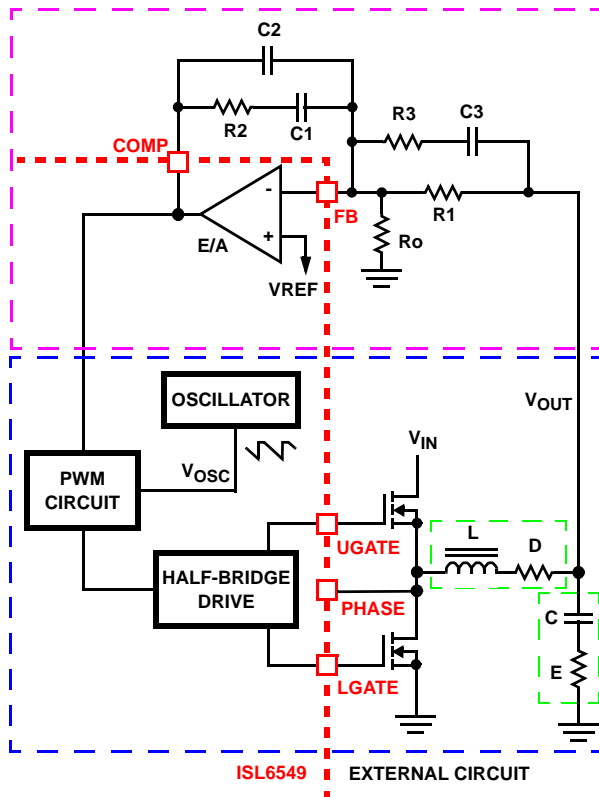

FIGURE 10. VOLTAGE-MODE BUCK CONVERTER COMPENSATION DESIGN
Figure 10 highlights the voltage-mode control loop for a synchronous-rectified buck converter, applicable to the ISL6549 circuit. The output voltage (VOUT) is regulated to the reference voltage, VREF. The error amplifier output (COMP pin voltage) is compared with the oscillator (OSC) modified saw-tooth wave to provide a pulse-width modulated wave with an amplitude of VIN at the PHASE node. The PWM wave is smoothed by the output filter (L and C). The output filter capacitor bank’s equivalent series resistance is represented by the series resistor E.
The compensation network consists of the error amplifier (internal to the ISL6549) and the external R1-R3, C1-C3 components. The goal of the compensation network is to provide a closed loop transfer function with high 0dB crossing frequency (F0; typically 0.1 to 0.3 of FSW) and adequate phase margin (better than 45 degrees). Phase margin is the difference between the closed loop phase at F0dB and 180°. The equations that follow relate the compensation network’s poles, zeros and gain to the components (R1, R2, R3, C1, C2, and C3) in Figure 10.
1. Select a value for R1 (1kΩ to 5kΩ, typically). Calculate value for R2 for desired converter bandwidth ( $F_0$ ). If setting the output voltage via an offset resistor connected to the FB pin,  $R_o$  in Figure 10, the design procedure can be followed as presented.